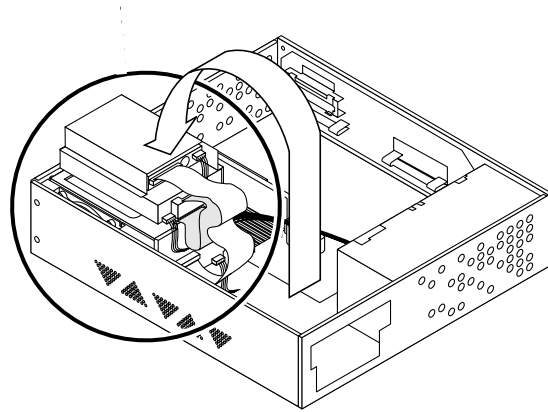

Figure 2-13 Replacing the Drive Bracket in the Disk Drive Bay
1. Place the drive bracket on top of the disk drive bay (Figure 2-13).